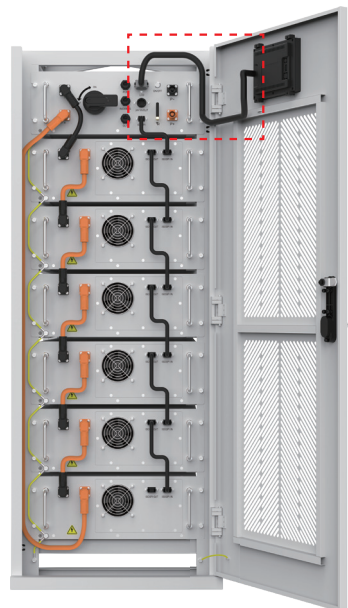

Figure 4
Step 4: Install the display screen cable as shown in Figure 4.